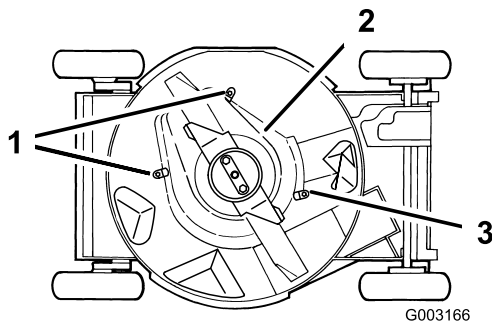

Figure 39
6. Loosen the tabs that secure the blade brake clutch shield to the deck by loosening the nuts or the bolts on the tabs (Figure 39). Rotate the tabs 180° to move them out of the way.